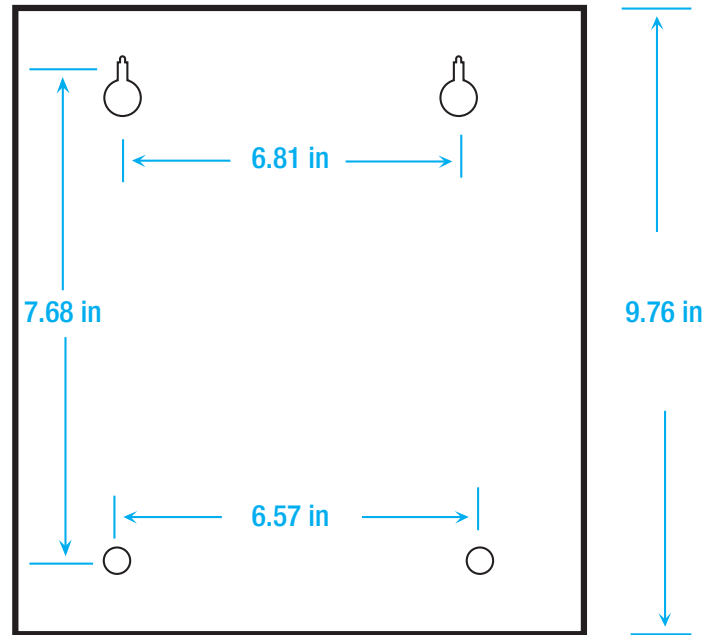

Fig. 1
2. Use the mounting dimensions (see Fig. 1) to plan and mark a level mounting location. Use anchors with the appropriate weight rating when there isn't stud available.